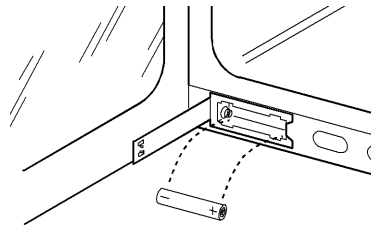

Fig.4
3. Fit the new battery ensuring positive (+) terminal is next to the (+) sign on the battery holder. See Fig.4.